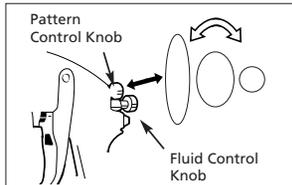

Figure 6 - Pattern Size
2. Set pattern size to desired shape. For full pattern, open pattern control knob by turning counterclockwise. For a round pattern, turn pattern control knob clockwise (See Figure 6).